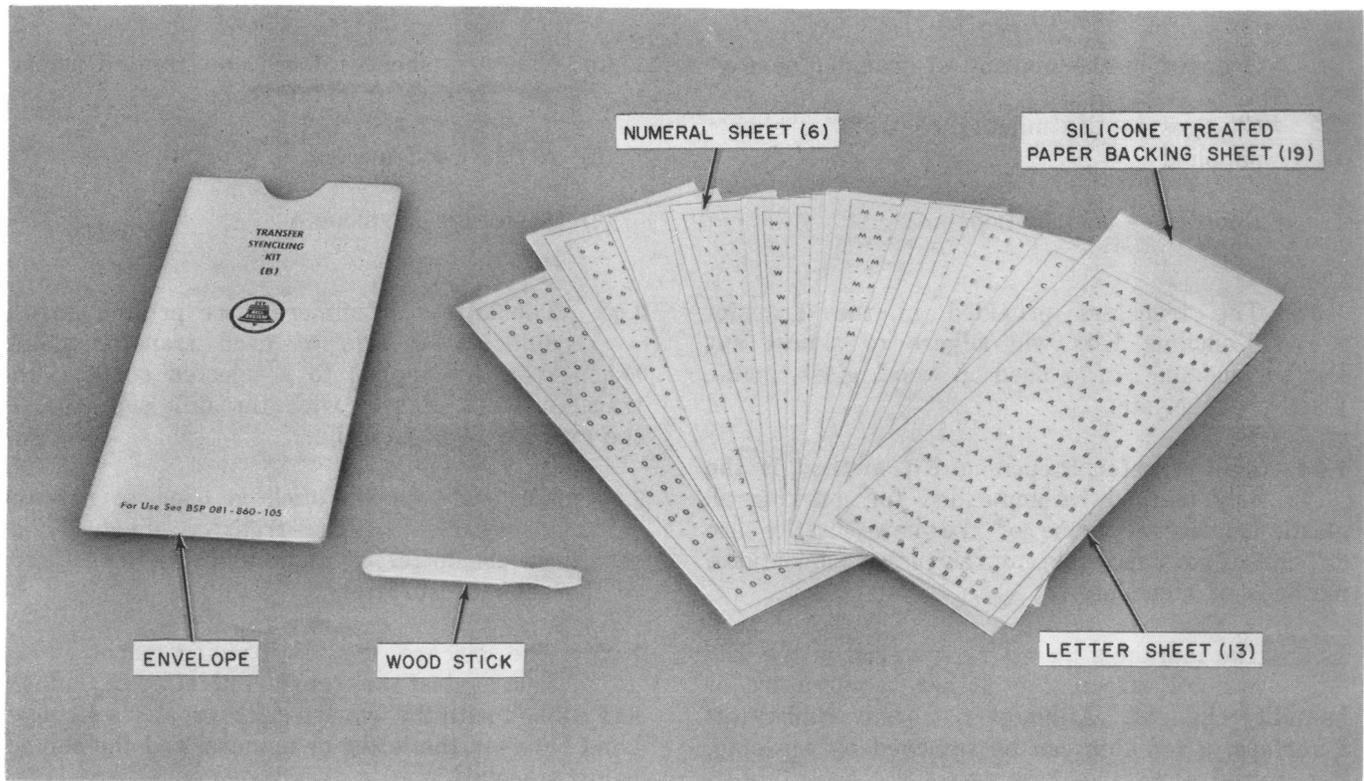

Fig. 1—B Transfer Stenciling Kit
2.07 The B Transfer Stenciling Kit (Fig. 1) contains *black* letters and numerals for application to light colored surfaces.